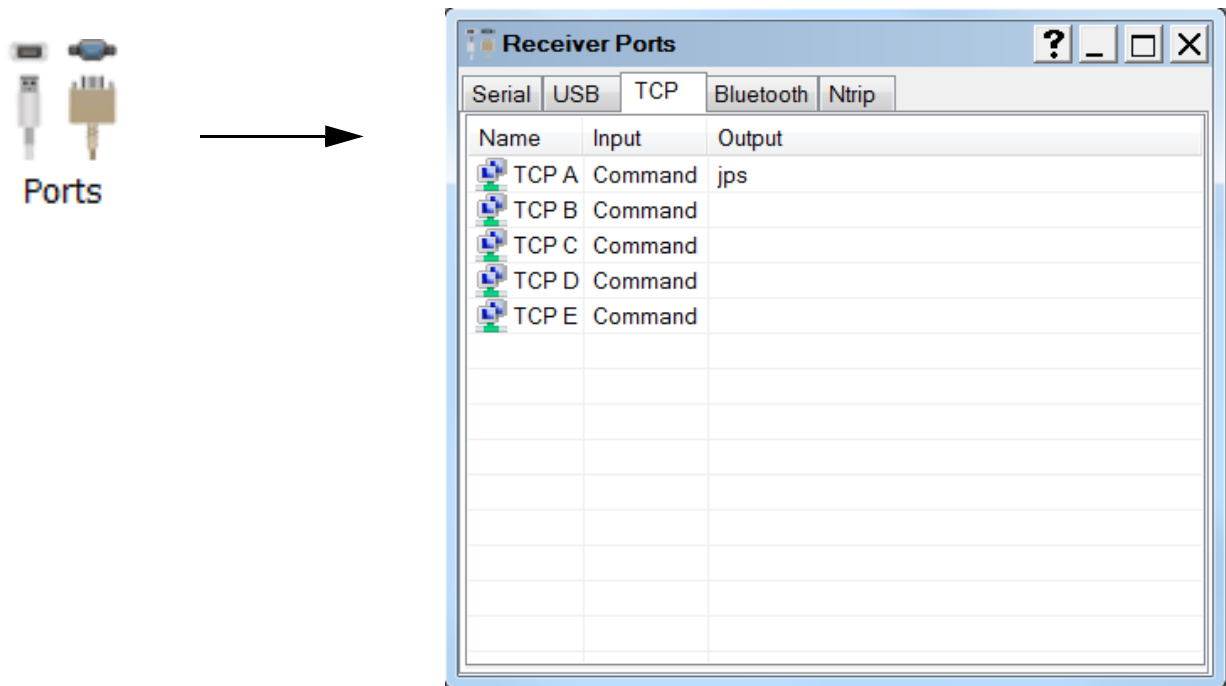

Figure 44: Receiver Settings
1. In the **Receiver Settings** screen, click **Ports** then click the **TCP** tab (Figure 44). The **Receiver Ports** screen for the **TCP** tab appears.